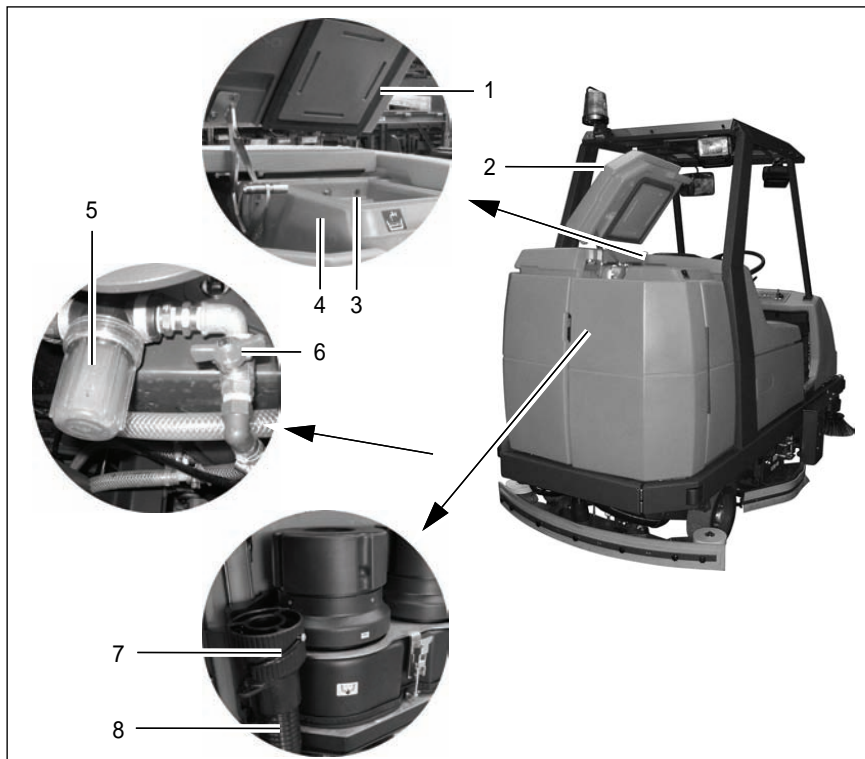

Fig. 29
Fill the fresh water tank (Fig. 29/4) with fresh water and cleaning agent before starting with the work, also refer to Section 3.1.5.
2. Open the tank lid (Fig. 29/2) and lock in place.
5. Close the lid (Fig. 29/2) on the fresh water tank.
10. Close the lid (Fig. 29/2) on the fresh water tank.
12. Close the lid (Fig. 29/2) on the fresh water tank.
If the vehicle is to be left unused for a longer period, the fresh water tank (Fig. 29/4) should be emptied.
1. Park the vehicle so that the draining hose for fresh water (Fig. 29/8) can be positioned over a drain in the floor.
4. Detach the fresh water draining hose (Fig. 29/8) and lower it slowly.
5. Unscrew the cap (Fig. 29/7) to open it. The quantity drained can be regulated by turning the screw cap and pivoting the cap open fully, if necessary.
- The screw cap (Fig. 29/7) at the end of the draining hose (Fig. 29/8) should be cleaned at regular intervals.
The fresh water supply is equipped with a filter (Fig. 29/5) which must be cleaned if dirt appears on the container. This is located on the left-hand side of the vehicle at the height of the brushes behind the side panel.
1. Close the ball cock (Fig. 29/6) to prevent fresh water being supplied from the tank.